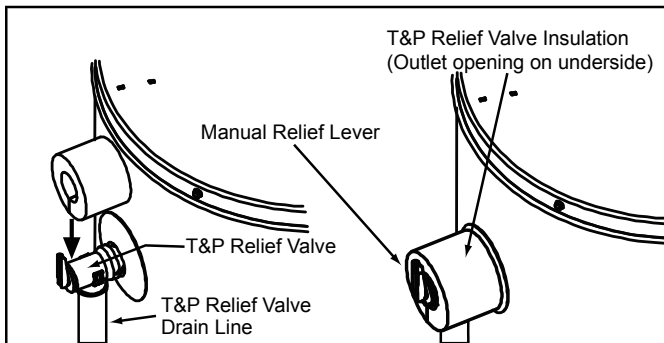

Figure 25
Locate the temperature and pressure relief valve on the water heater (also known as a T&P relief valve). See Figure 25.
2. Spread the slit open and fit the insulation over the T&P relief valve. See Figure 25. Apply gentle pressure to the insulation to ensure that it is fully seated on the T&P Relief Valve. Once seated, secure the insulation with duct tape, electrical tape, or equivalent. **Important:** The insulation and tape must not block the discharge opening or hinder access to the manual relief lever (Figure 25). Ensure a discharge pipe is installed into the T&P valve discharge opening per the instructions in this manual.